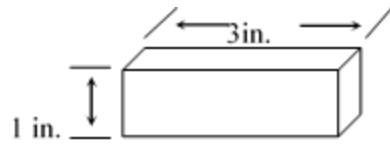

Figure 2
- 5.3** Using the calipers record the outside measurement width at 1 in. and 3 in. of the smallest gauge block (Figure 2).